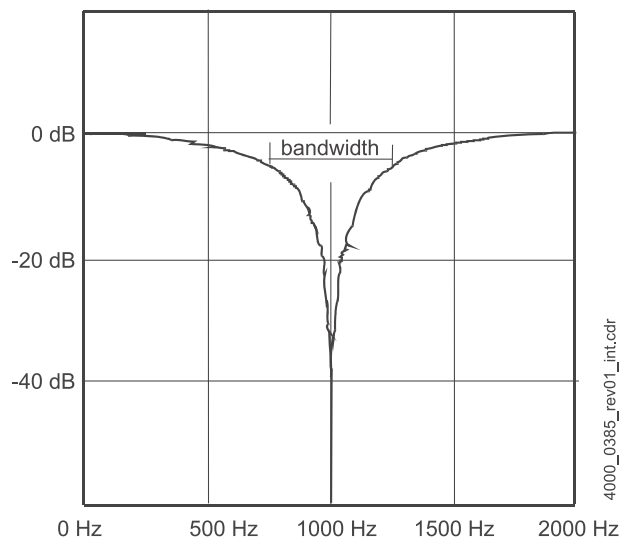

Figure 97: Amplitude response notch filter
▶Figure 97◀ Shows the amplitude response of the notch filter at a center frequency of 1000 Hz and a bandwidth of 500 Hz. The gain of the notch filter at the center frequency equals to zero.